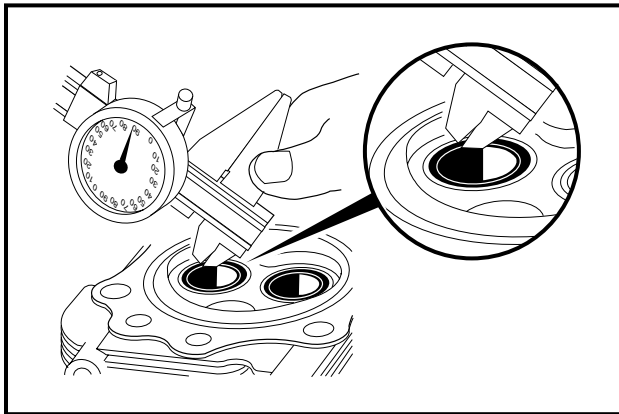

Figure 3-20 Measuring Valve Seats
- 2.2. Measure the seat width of the 45° angle portion of the seat at several places around the seat (**Figure 3-20, Page 3-12**).